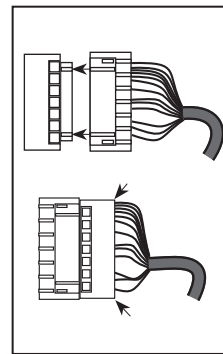

Figure 6B
- 6. Attach cable assembly connector to the inside escutcheon PC board by lining up notches on top of cable connector to slots on PCB connector (Fig. 6B).